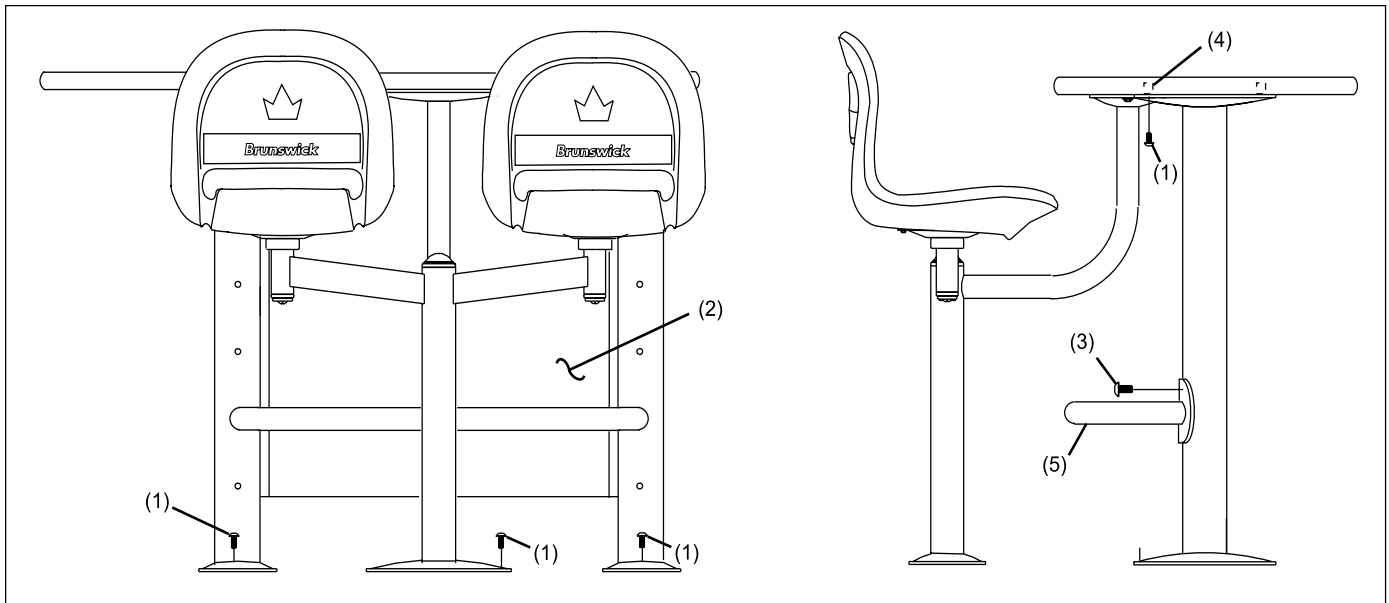

Figure 20. Install Threaded Insert Into Table Top
2. Install two 3/8-16 threaded inserts in the table top for securing the mod wall chair assembly. Refer to *Figure 20*.
3. Secure the appropriate table top to the mod wall leg assembly with four 3/8-16 x 3/4" button head cap screws. Refer to *Figure 20*.
4. Secure the foot rest to the leg assemblies at the second set of holes from the bottom with two 3/8-16 x 1" button head cap screws. Refer to *Figure 20*.
5. Secure the modular wall chair assembly to the table top with two 3/8-16 x 3/4" button head cap screws. Refer to *Figure 20*.
3. After installing the floor fasteners, reposition the table and chair assembly over the floor fasteners and secure the assembly to the floor with six 3/8-16 x 3/4" button head hex socket cap screws. Refer to *Figure 20*.